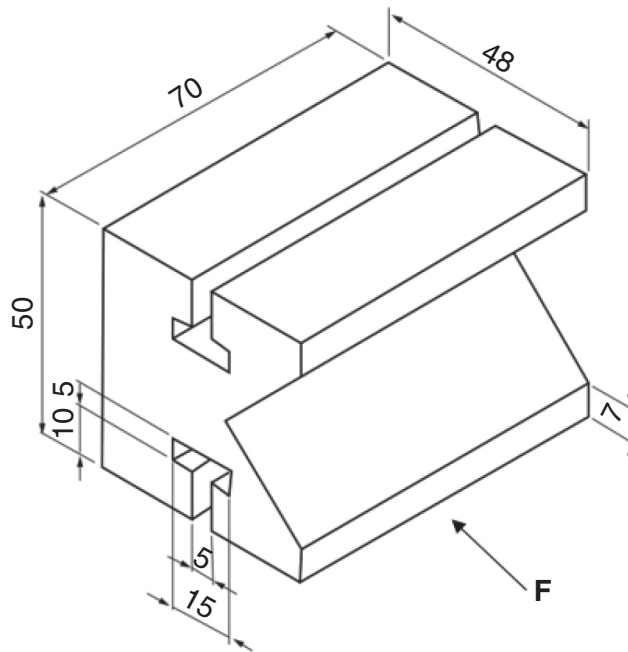

Fig. 2
- 3 Fig. 2 shows an isometric view of a V-block.